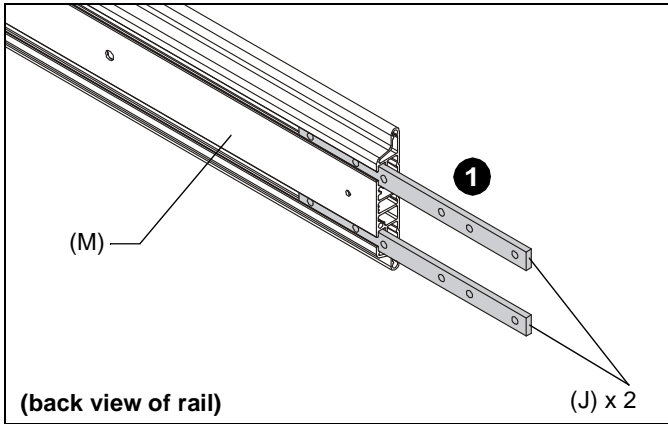

Figure 1
1. Insert two tie bars (J) into the slots on one section of mounting rail (M). (See Figure 1)